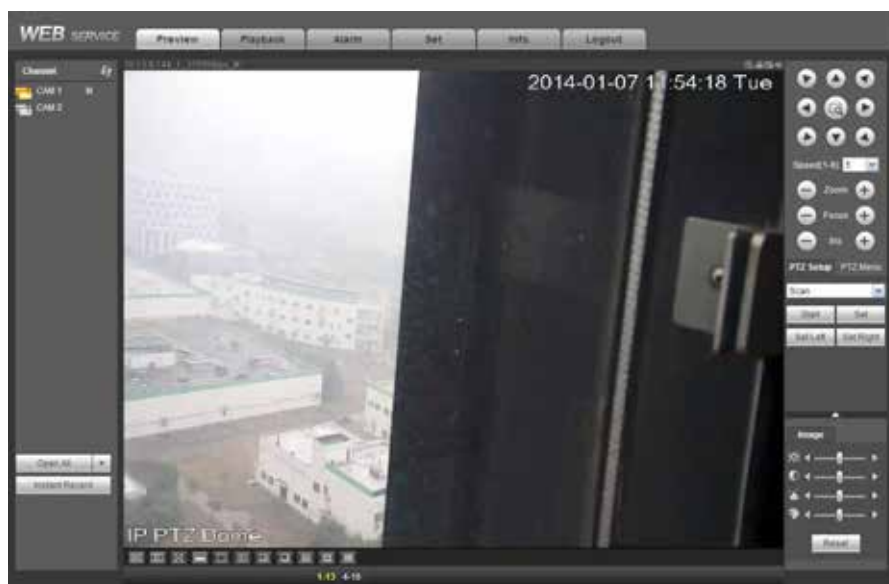

Figure 7-13
- 2) You can select different channels and different monitor modes at the bottom of the interface. See Figure 7-13.